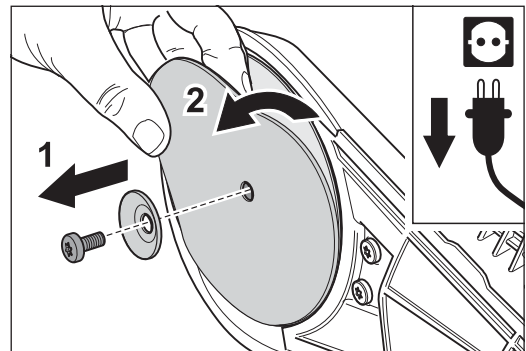

Fig. 17 Remove the screw and the paper tensioning disc (1) and remove the sanding disc (2).
- 4 Remove the screw and paper tensioning disc (fig. 17, 1). Remove the sanding disc from the sanding plate (fig. 17, 2) and put all three parts aside.